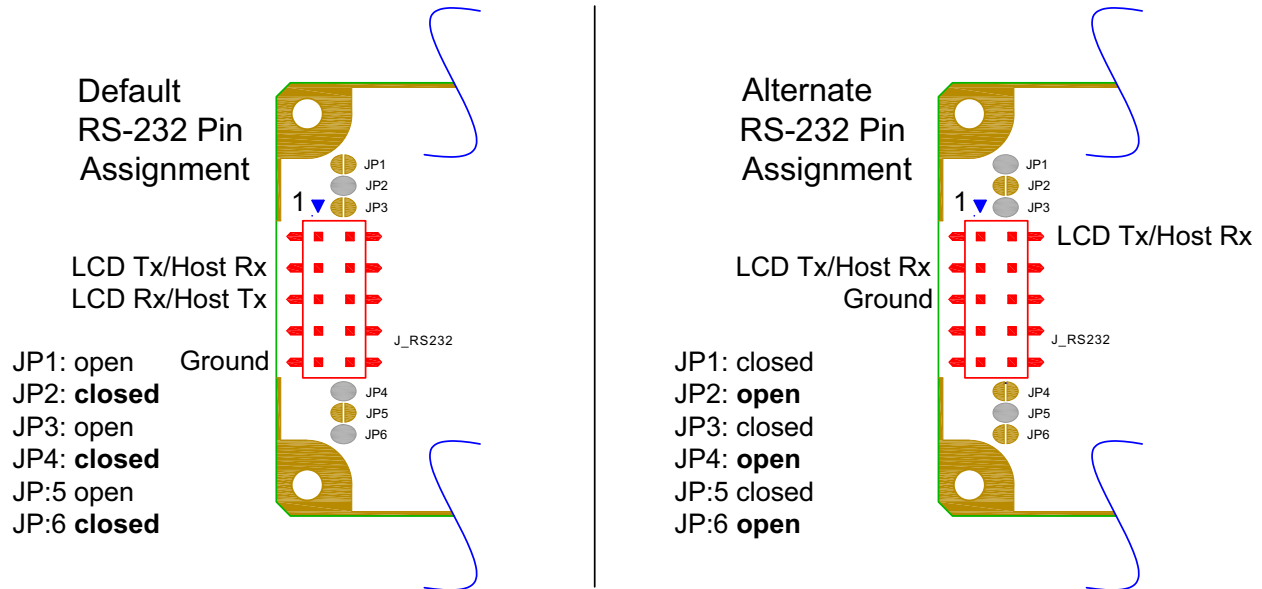

Figure 15. J_RS232 Default and Alternate Pin Assignments
3. If the “Default RS-232 Pin Assignments” (see Figure 15 on Pg. 29) are selected, the five connections needed to operate the display module are all on a single column of pins on J_RS232. You can connect a single 0.1-inch spacing 5-conductor cable to connect between the CFA533-TMI-KL and your host.
JP2, JP4, and JP6 are closed at the factory, selecting the "Default RS-232 Pin Assignments" (see Figure 15 on Pg. 29). This connection allows a low-cost ribbon cable (CrystalFontz WR-232-Y08) to connect the CFA533-TMI-KL to a host's DB-9 COM port.